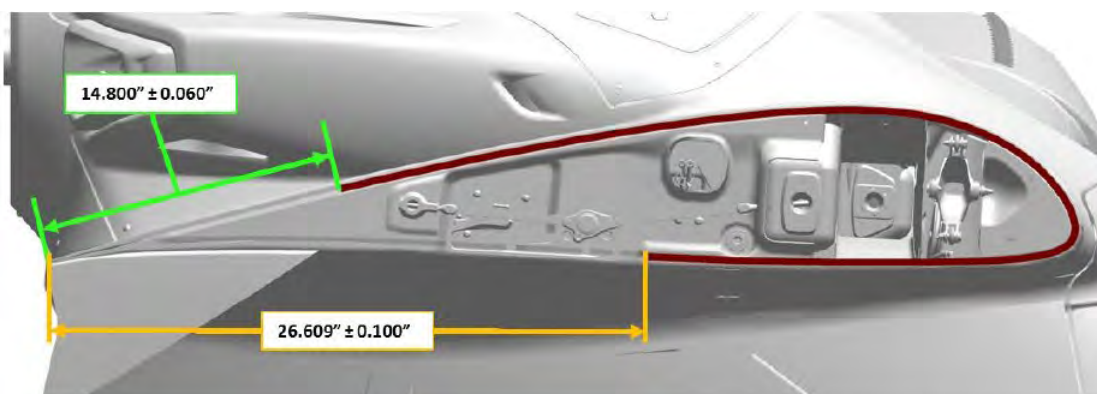
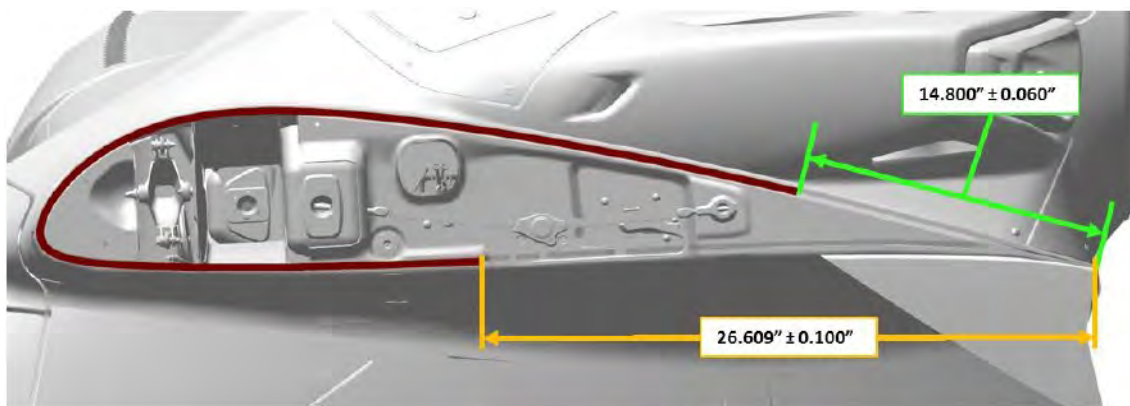

FIGURE 17-2
FIGURE 17-3
3. Locate ends of the seal according to the dimensions shown in reference to the trailing edge. See Figure 17-2 and Figure 17-3.